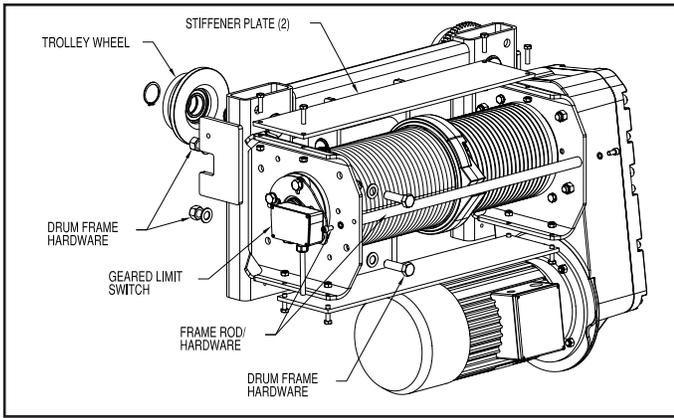

Figure 5-6. Drum Frame & Geared Limit Switch ("B" & "C" Frame Shown)
- b) Remove the geared limit switch or disconnect the wires so that the electrical cable will not inhibit removal of the drum. (see Figure 5-6).
- c) Remove the hoist from the beam, place it on the ground and provide adequate means to support the drum before removing the frame rod cap screw(s) and stiffener plate hardware ("B" & "C" Frame only) at the outboard end drum frame (see Figure 5-6).